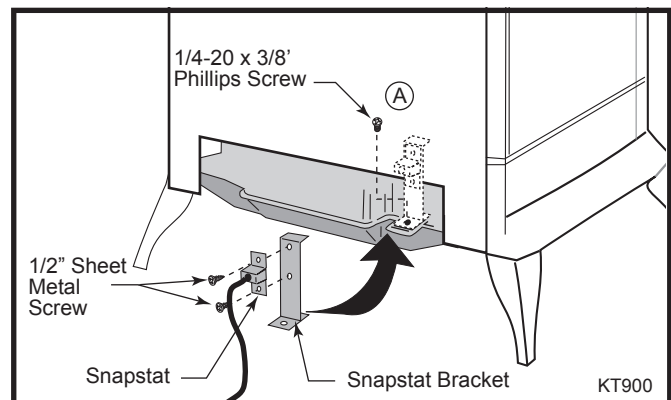

Fig. 14 Attach snapstat.
2. Attach the Snapstat to the bracket using two (2) #10 x 1/2" Phillips screws. (Fig. 14)
3. Locate and remove the 1/4-20 x 3/8" hex head bolt installed in the hole in the right rear ledge of the firebox. (A, Fig. 14) Use that bolt to secure the snapstat bracket to the firebox. The mounting hole is slotted to allow you to adjust the bracket so the snapstat head makes contact with the firebox surface. (Fig. 14)